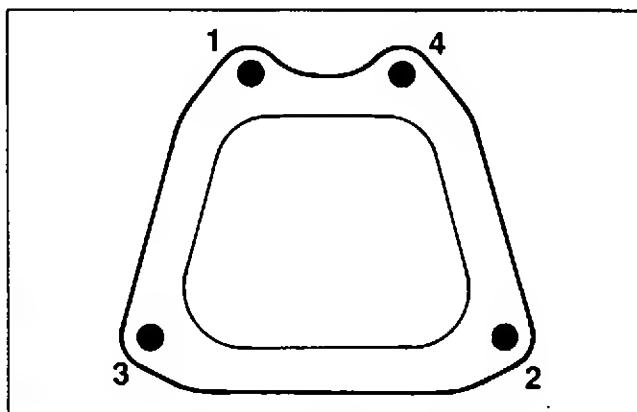

Figure 11-23. Valve Cover Fastener Tightening Sequence.
7. Install the valve cover. Torque the hex flange screws to $3.4 \text{ N}\cdot\text{m}$ (30 in. lb.) using the sequence shown in Figure 11-23.